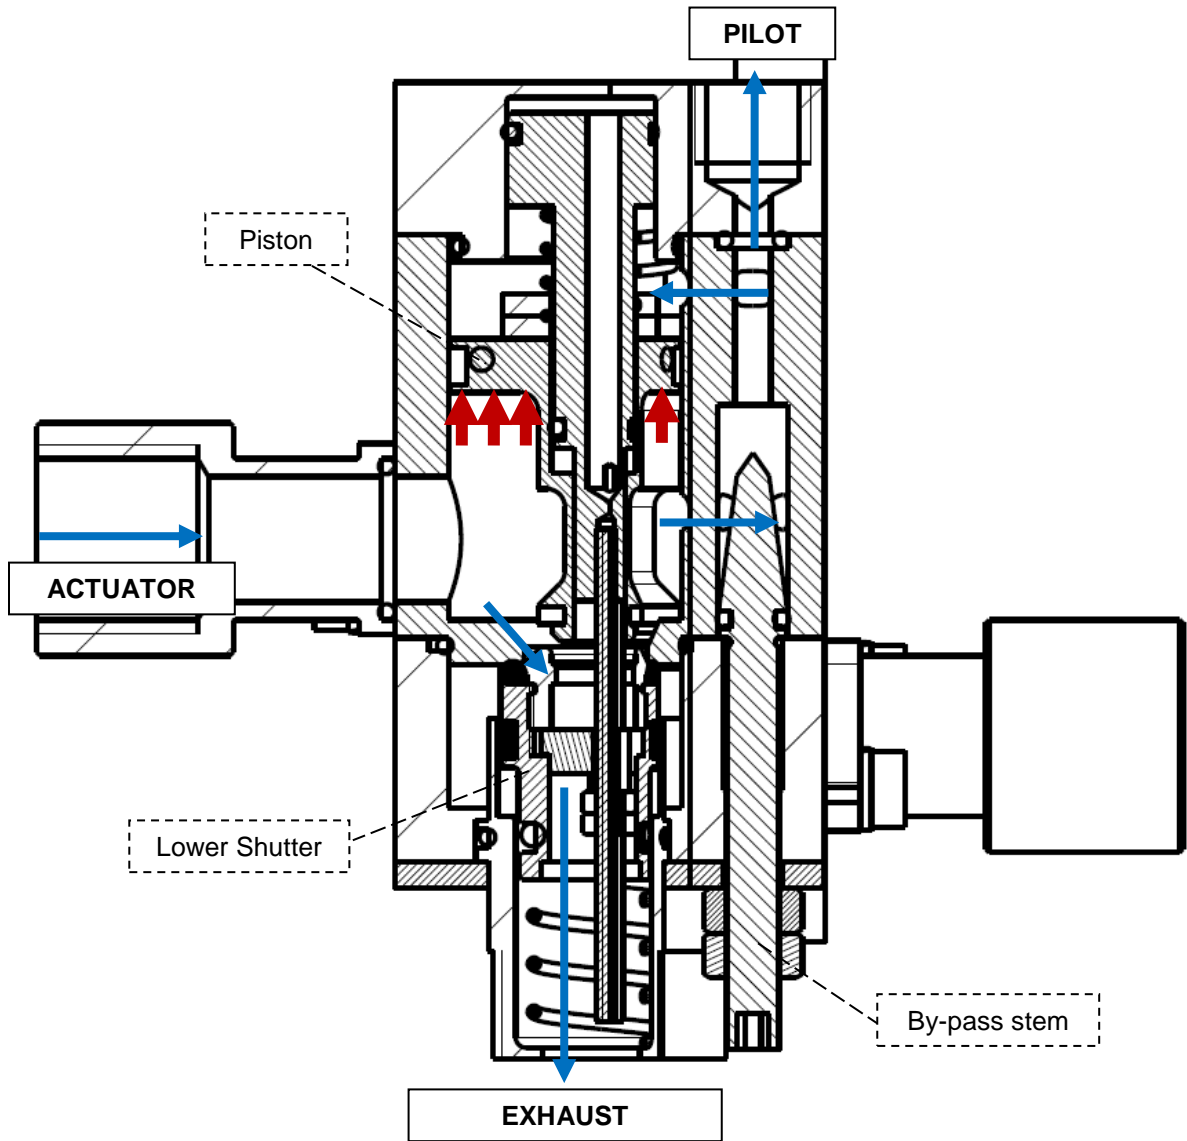

Figure 10 – Discharge setup: modulating model
- b) if the flow rate is greater than a threshold value depending on the by-pass stem adjustment, the valve shutter throttling generates a pressure drop between the two side of the piston and the working fluid pushes up the piston, allowing the connection between the actuator chamber and the exhaust. This case is called "modulating mode" (figure 10);